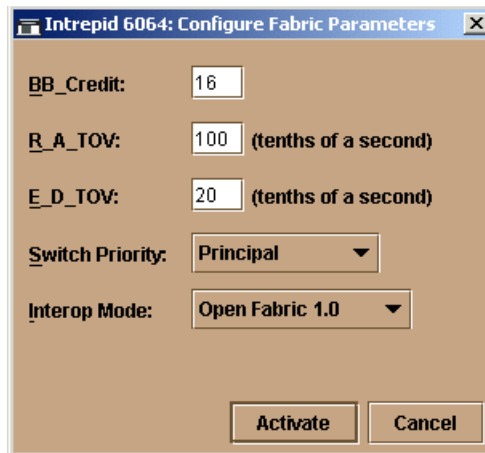

Figure 4-136 The ED-6064 fabric operating parameters
3. **Fabric Operating Parameters:** Configure the ED-6064 fabric operating parameters by selecting **Configure -> Operating Parameters -> Fabric Parameters** as shown in Figure 4-136.